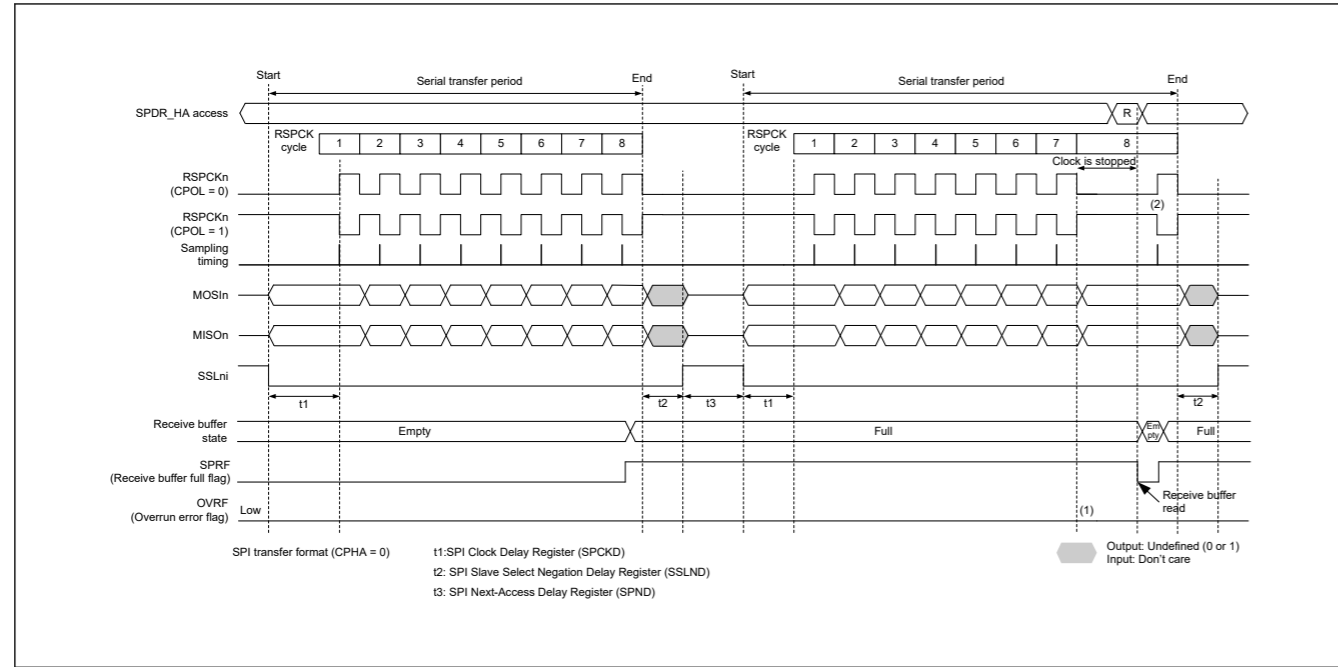

Figure 27.30 Clock stop waveform when serial transfer continues while receive buffer is full in master mode (CPHA = 0)
在主机模式下启用RSPCK自动停止功能（SPCR2.SCKASE=1）时，不会发生溢出错误。图27.29和图27.30显示了在主机模式下接收缓冲区已满时串行传输继续时的时钟停止波形。
The operation of the flags at timings (1) and (2) in Figure 27.29 and Figure 27.30 is as follows: